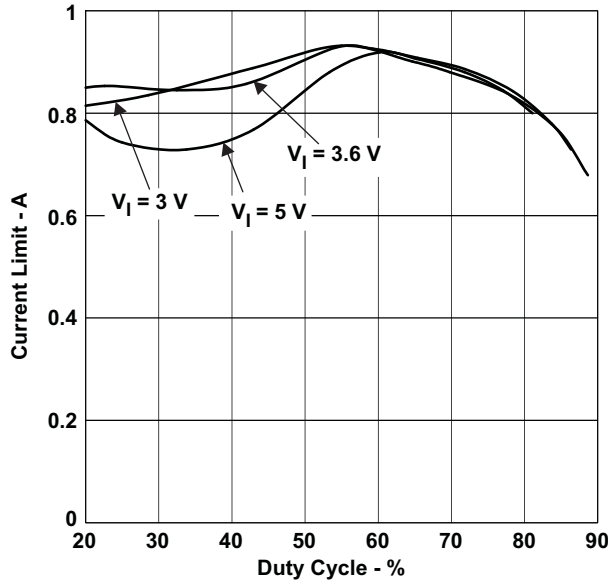
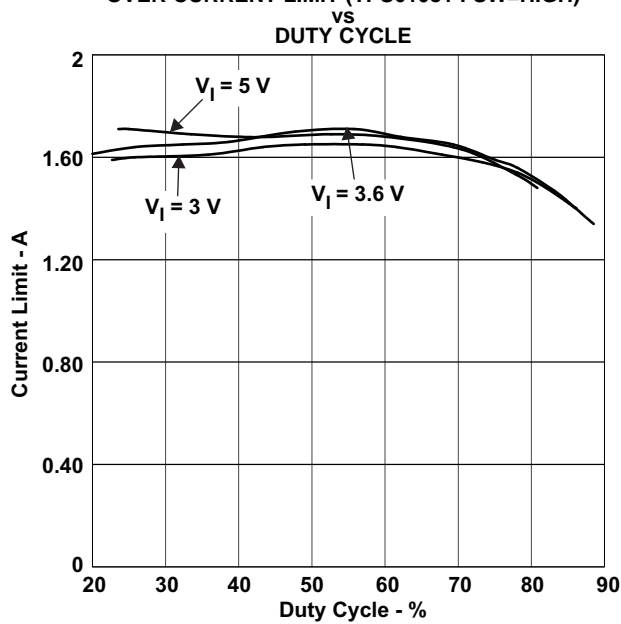

Figure 6.
Figure 9.
(1) VIN = 3.6 V, VOUT = 15 V, Duty cycle = 76%. See Figure 6 to Figure 9 for other operation conditions.
(2) OUT short circuit condition is detected if OUT stays lower than VIN - VSC for 1.7 ms after IC enables. See the START UP section for details.
To minimize the variation in the overcurrent limit threshold, the TPS61080/1 uses the VIN and OUT pin voltage to compensate for the variation caused by the slope compensation. However, the threshold still has some dependency on the VIN and OUT voltage. Use Figure 6 to Figure 9 to identify the typical over-current limit in your application, and use 25% tolerance to account for temperature dependency and process variations.